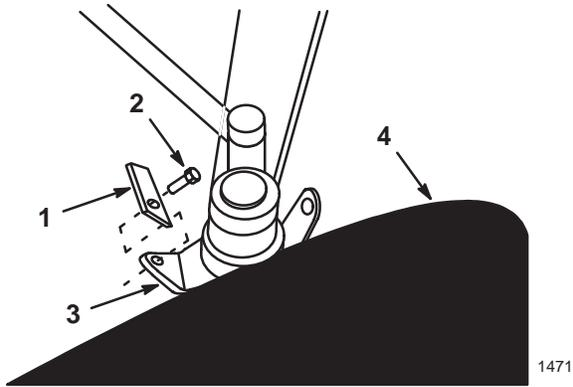

Figure 11
1. Install the steering spindle stops in front of the rear tabs on the front wheel spindles (Fig. 11). Align so that the stops contact the axle during tight turns and prevent the wheels from contacting the blade frame. Secure with 5/16 x 3/4" (19 mm) self tapping bolts (Fig. 11).